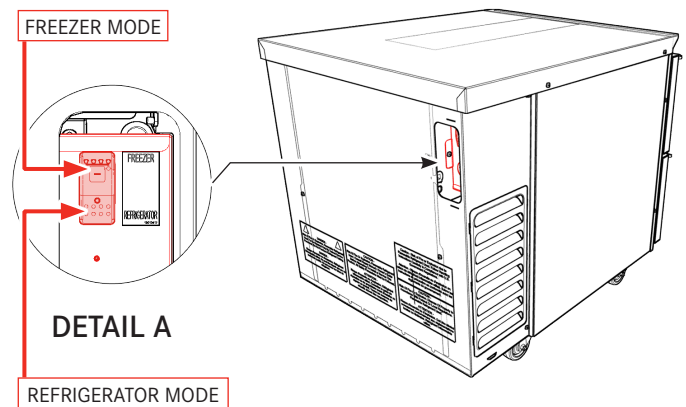

Fig. 12
3. Locate toggle switch on the electrical box inside of toggle switch compartment (Fig. 12, Detail A). Toggle the switch to the UP position for Freezer mode and to the DOWN position for Refrigerator mode. Reinstall previously removed access panel and screw.